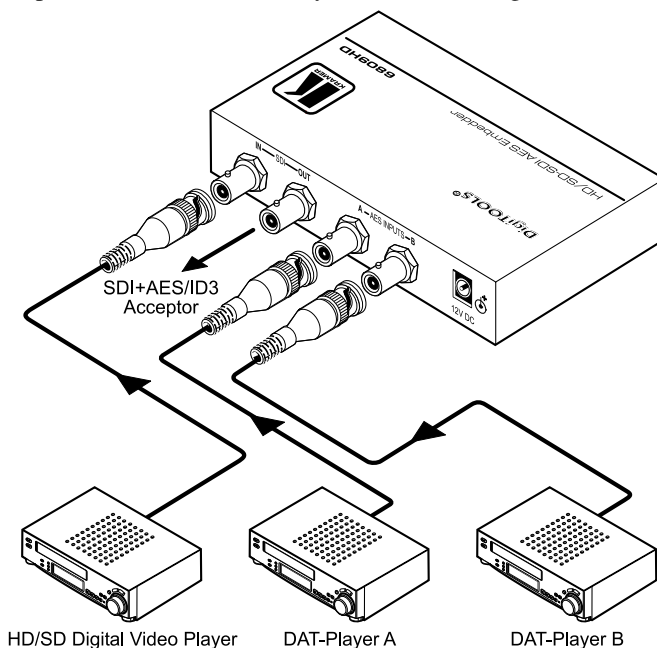

Figure 2: Connecting a 6809HD SDI-AES Embedder
To connect the **6809HD HD/SD-SDI AES Embedder**, as illustrated in the example in Figure 2, do the following¹:
6. Connect the 12V DC power adapter to the power socket and connect the adapter to the mains electricity (not shown in Figure 2).